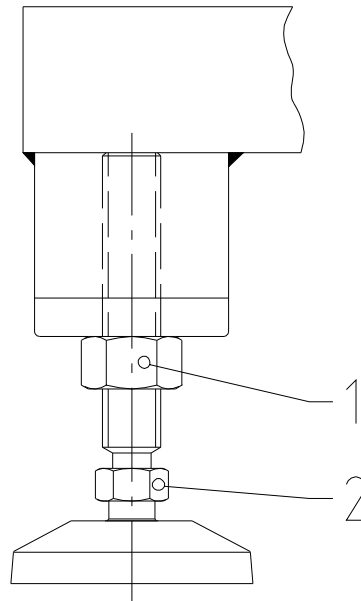

fig. 3
- The front, left-hand foot can be moved up or down by a screw thread with the help of an SW12 spanner (item 2). First, a locking nut at the top of the thread (item 1) must be loosened to allow movement using an SW18 spanner (see figure 3)